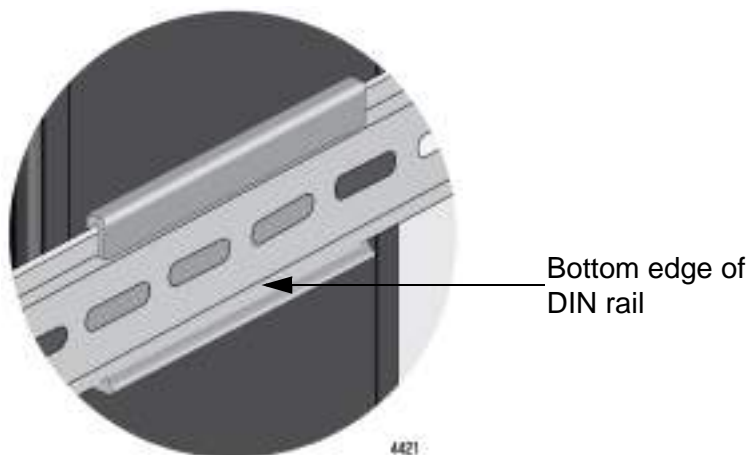

Figure 23. Install Switch on DIN Rail
2. Press down against the spring within the bracket on the top back edge of the switch until you the bottom edge of the front faceplate of the switch can be pushed back and under the bottom edge of the DIN rail. Release the pressure on the top of the switch until the DIN rail bracket spring securely fastens bracket to the top and bottom of the DIN rail. Refer to Figure 23.